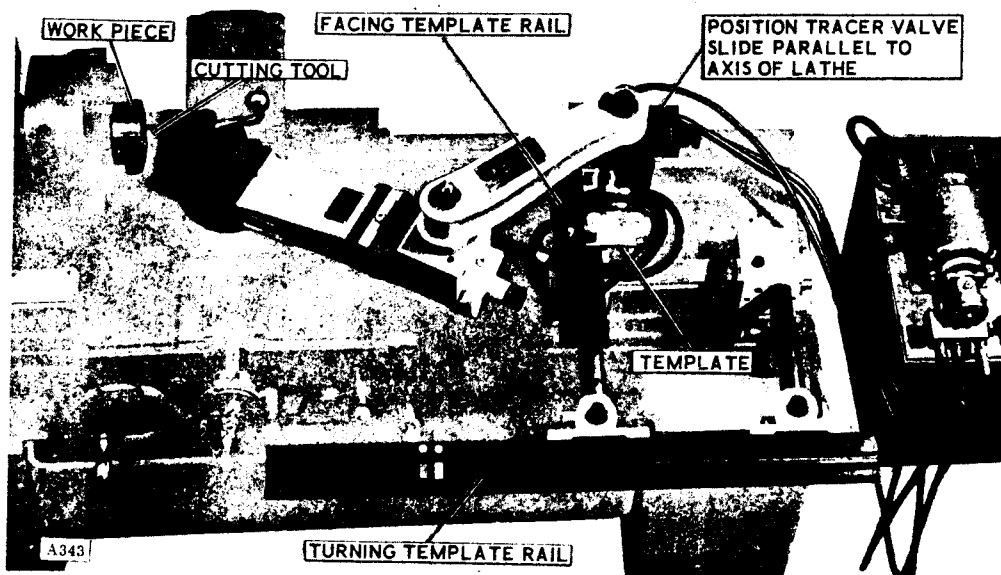

Figure 3-14. Typical Installation for a Facing Operation Using Facing Template Rail Supplied as Optional Equipment with Universal Template Rail Assembly
- a. Install the lathe tracer attachment as described in Section II. Figure 3-14 shows a typical installation for a facing operation using the facing template rail supplied as optional equipment with the Universal Template Rail Assembly.